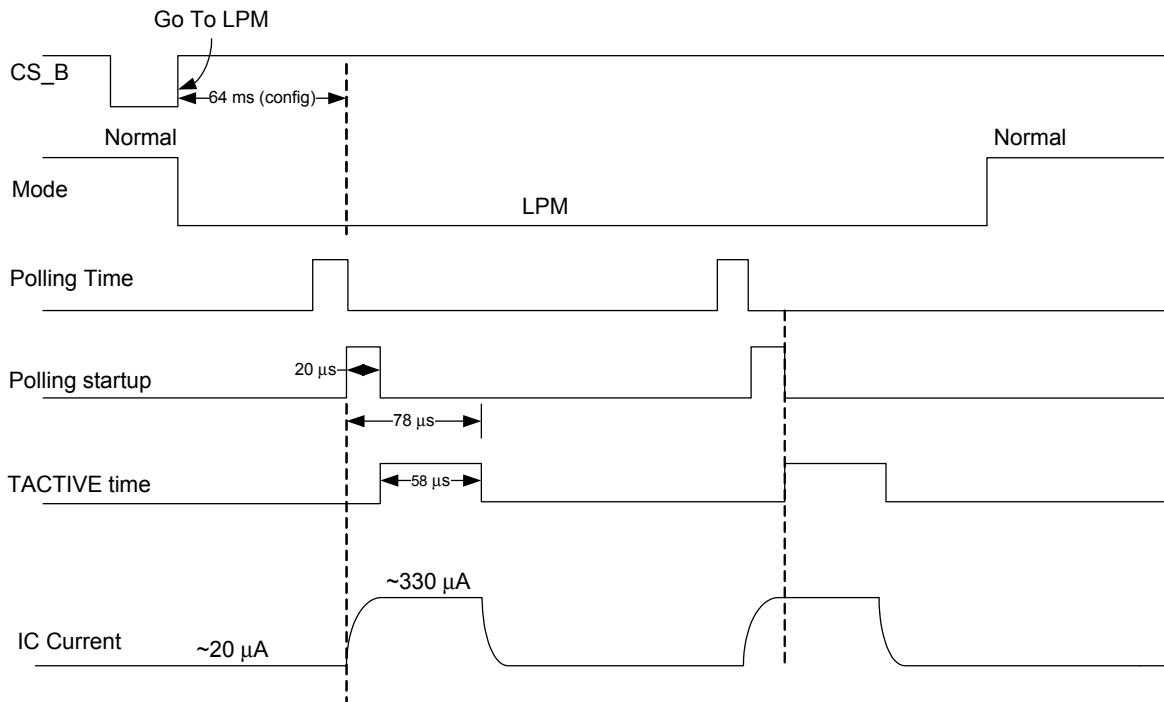

Figure 3. LPM operation waveforms
When the MC33978 is in LPM, it uses a polling mode which periodically (selectable in LPM config register) interrogates the input pins to determine in what state the pins are, and decide if there was a change of state from when the chip was in Normal mode. This mode forces the device into a “Virtually Active” condition during TACTIVEPOLL and uses the current sources to pull-up (SG) or down (SB) to determine if a switch is open or closed, as shown in Figure 3.